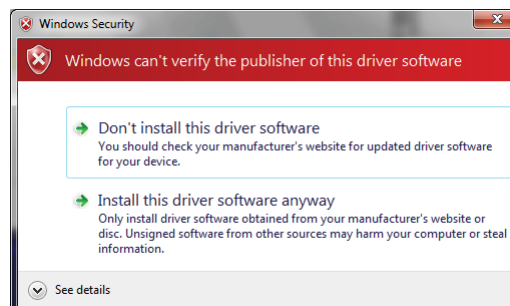

**Figure 12. Progress Bar Screen**
- A progress bar appears, as shown in Figure 12; this step takes a few minutes.